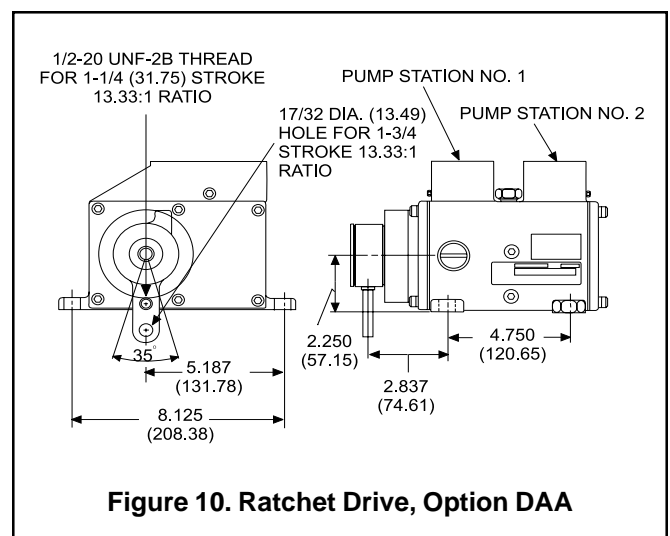

Figure 10. Ratchet Drive, Option DAA
**Ratchet Drive.** This option allows the driveshaft to be driven by reciprocating motion of your equipment. Two mounting holes allow connection to reciprocating rods with 1-1/4 or 1-3/4 inch (31.75 or 44.45 mm) stroke. Figure 10 illustrates the ratchet drive, option DAA.